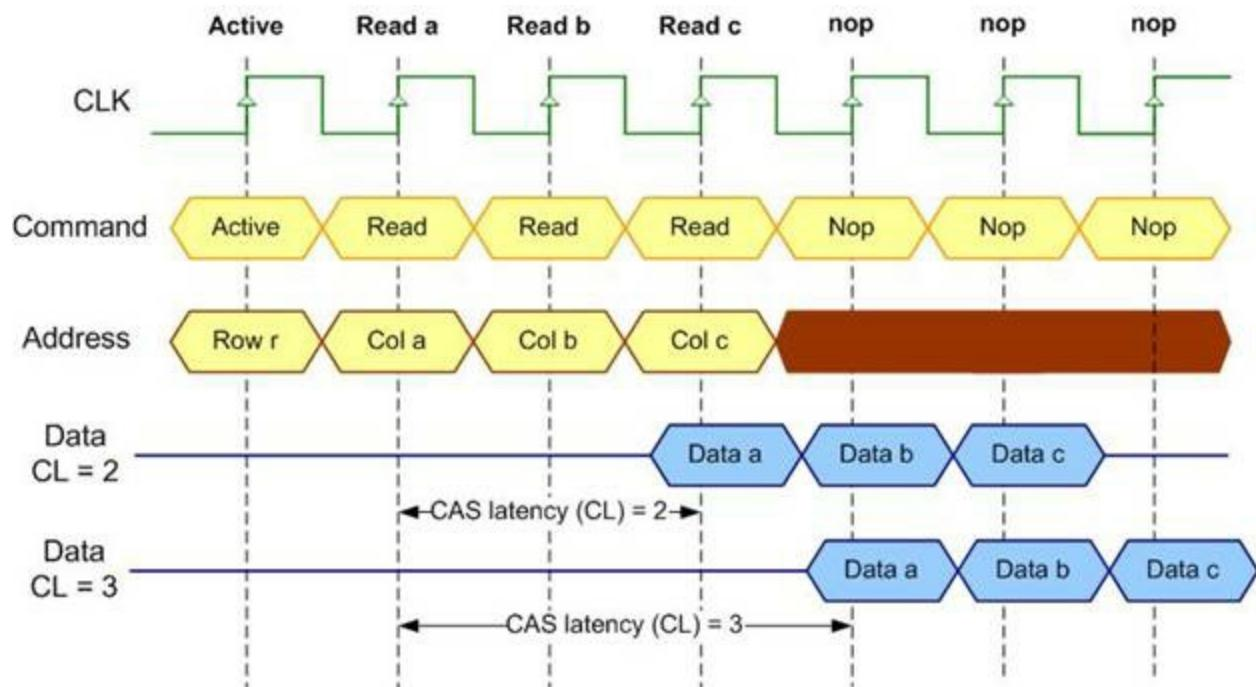

Figure 13-13: SDRAM CAS Latency
In read operation it can be programmed that how many clocks after CAS will the data appear at the data pins. It is called CAS latency or read latency and can be 1, 2, or 3 clocks. Figure 13-13 shows data for CAS latency (CL) = 2 and CL = 3 .